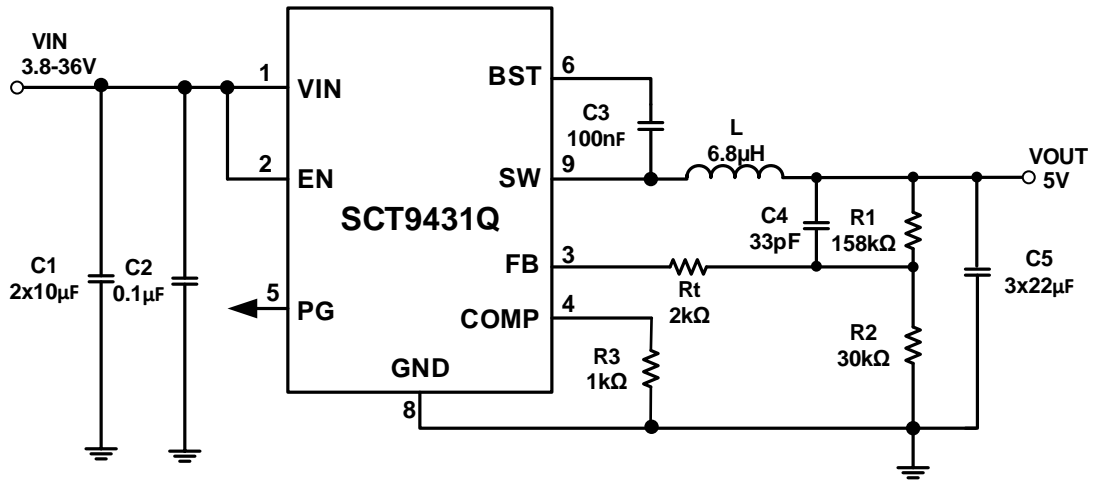

Figure 9. 12V Input, 5V/3A Output with Internal Compensation
The SCT9431Q features external programmable output voltage by using a resistor divider network R1 and R2 as shown in the typical application circuit Figure 9. Use equation (11) to calculate the resistor divider values.